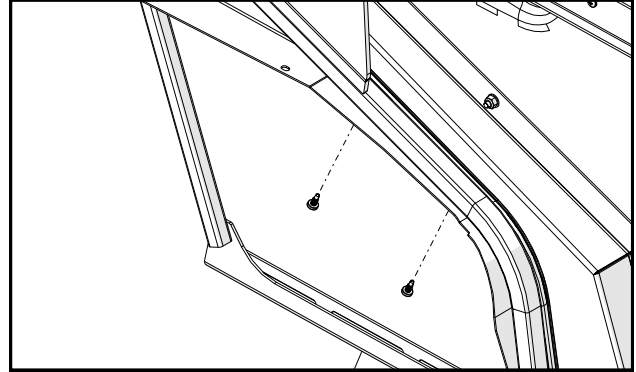

Fig. 2.3 (re-install lower (2) Screws - Drive only)
**2.3** Re-install the lower (2) #10 Self Drill Screws removed on Step 2.2 on left contour, per figure 2.3. Repeat on the right side.